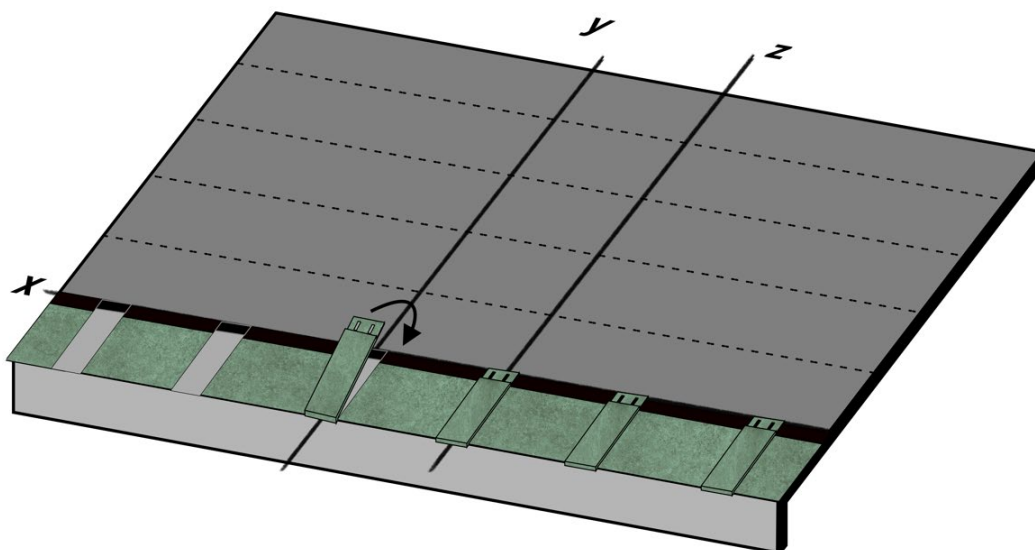

Fig. 21 - Compact Clip Installation
- Place the Compact Clips, aligning the central notch of the first Compact Clip with the joint between two consecutive shingles and the second Compact Clip with the centre of the shingle. The Compact Clip will be fixed in position, adhering to the exposed portion of the butyl tape, Fig. 21.